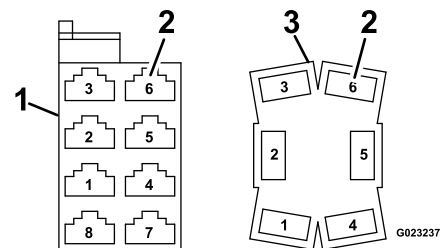

Figure 16
- I. Using the same wire order, insert the wires into the new connector (Figure 16).